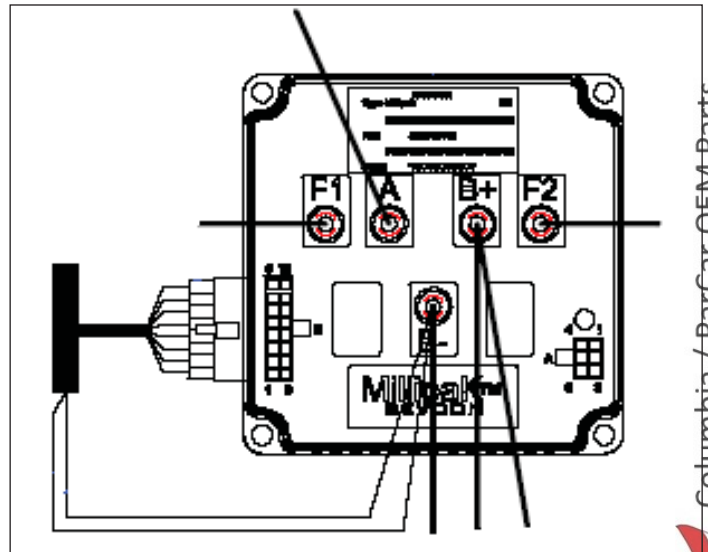

Figure 10-20. 5 Post Smartdrive Controller
The Smartdrive system uses separately excited motor and Sevcon Controller with solid state forward/reverse control and plug braking. Plug braking is non-regenerative power absorbing deceleration. This system is better suited for flat terrain and reduced braking requirements. The Smartdrive system is distinguished by a 5 post controller. Refer to Figure 10-20.
- Label/mark controller cables with controller terminal identification, if not already labeled. See Figures 10-20 & 10-21.